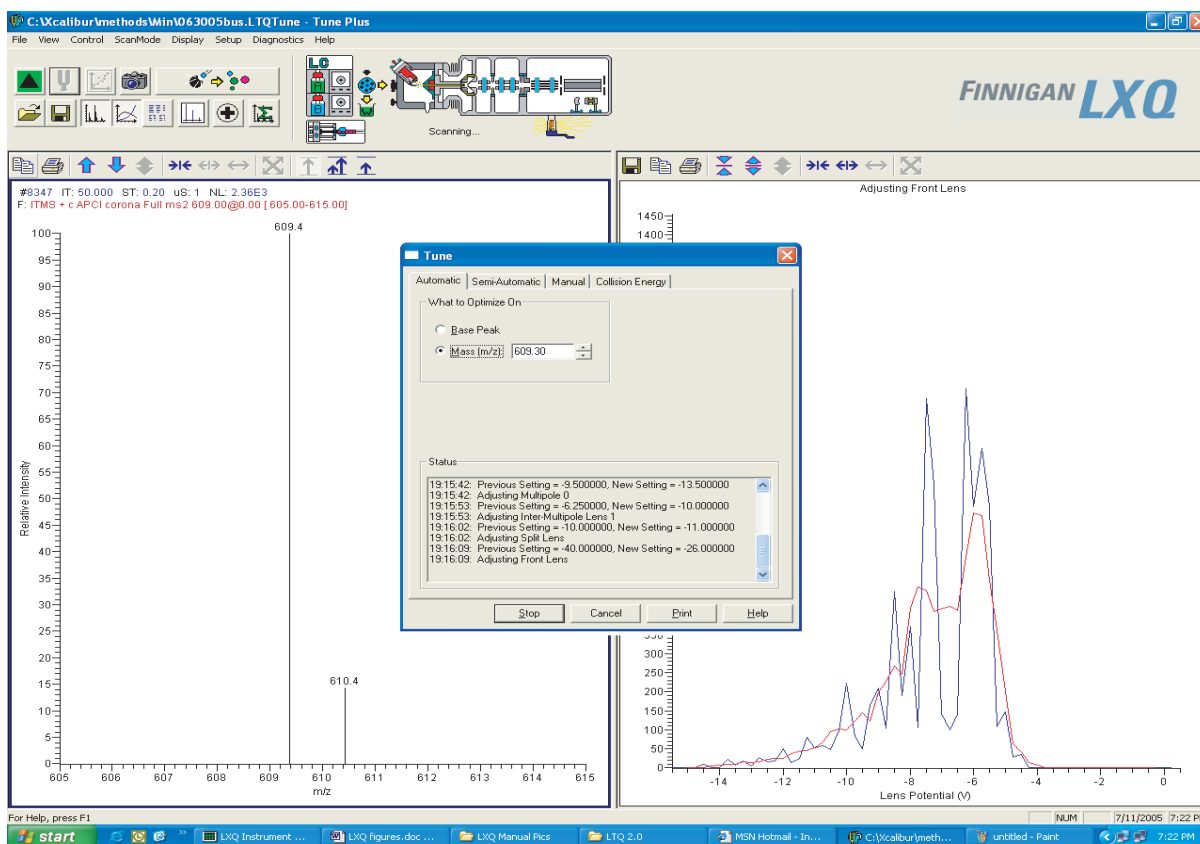

Figure 60. Tune Plus window with the Tune dialog box, showing the Automatic tuning page
7. Observe the Tune Plus window and the Tune dialog box. While automatic tuning is in progress, the Finnigan LXQ MS detector displays various tests in the Spectrum and Graph views in the Tune Plus window and displays various messages in the Status group box in the Tune dialog box. Your Tune Plus window should now look similar to the one shown in Figure 60.